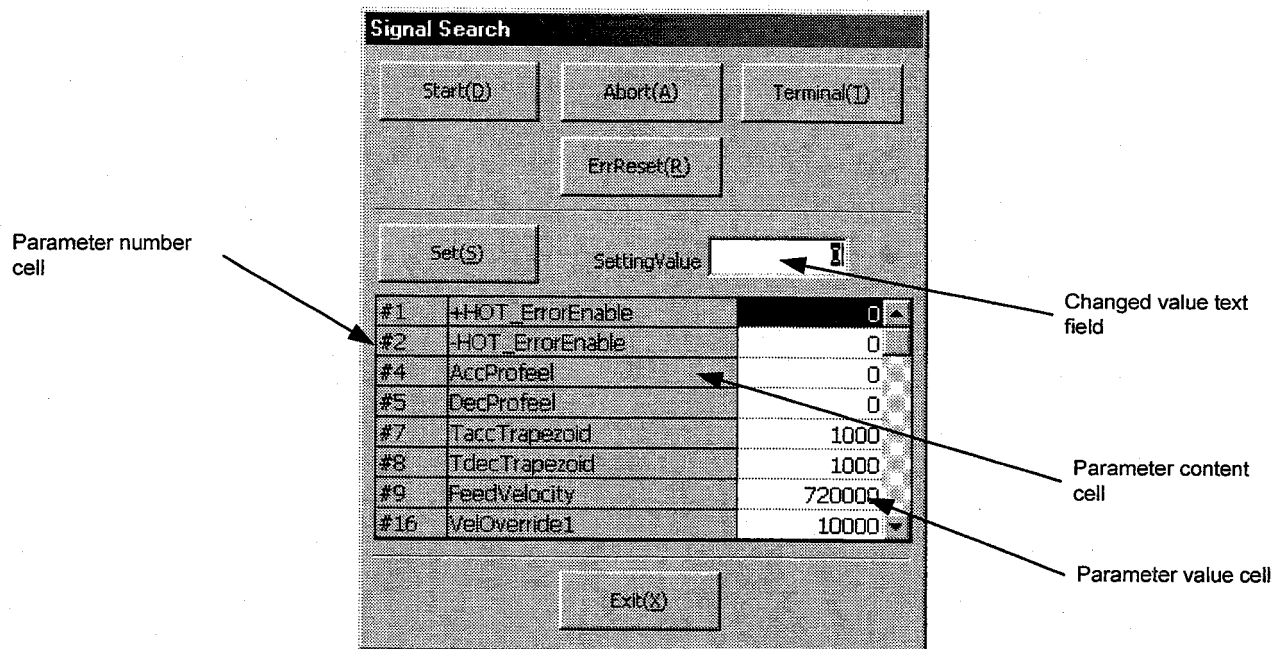

Figure 7.26 "Signal Search" dialog box
- 1) Click "*Terminal (T)*."
Click "*SignalSearch (S)*" in the "DriveMenu" dialog box to display the "Signal Search" dialog box (see Figure 7.26). If the connection with the driver is established, the current values of the related parameters are read and can be edited.